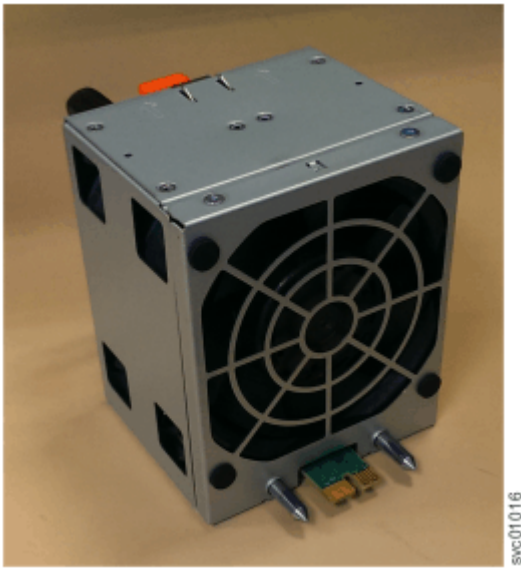

Figure 136. Fan module orientation
5. Hold the fan module with the release tab on top and the connector pin on the bottom, as shown in Figure 136 on page 188.